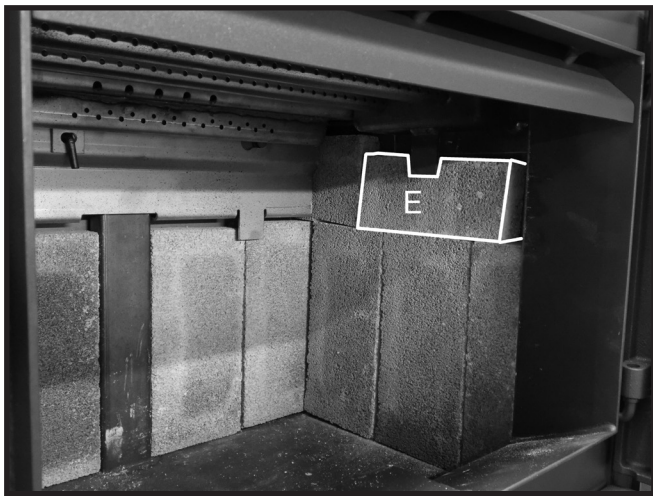
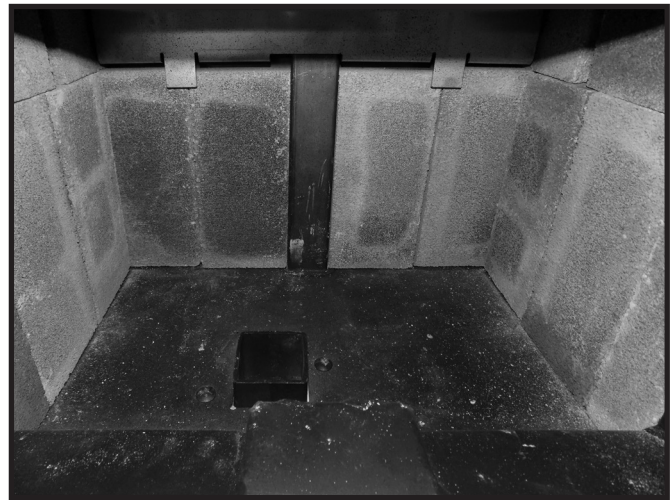

Figure 24: Final side wall firebrick in position.
Figure 25: Firebox floor with ash dump.
7. Slide an "E" firebrick under the side wall brick rail tab and rest on top of the three previously placed side wall firebricks (Figure 24). Repeat steps 4-7 on the other side (Figure 25).